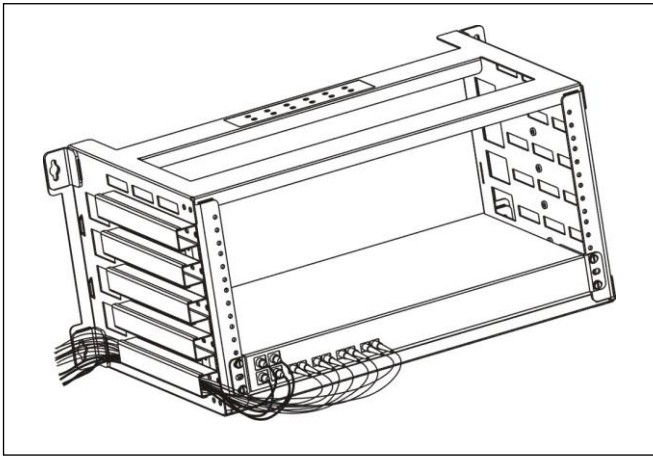

Figure 9. Cable guide application
- ② Groom cabling from the front of the chassis to the wall through the cable guide on the side of the WR-5UI2, as shown in Figure 9, and replace the sliding cover.